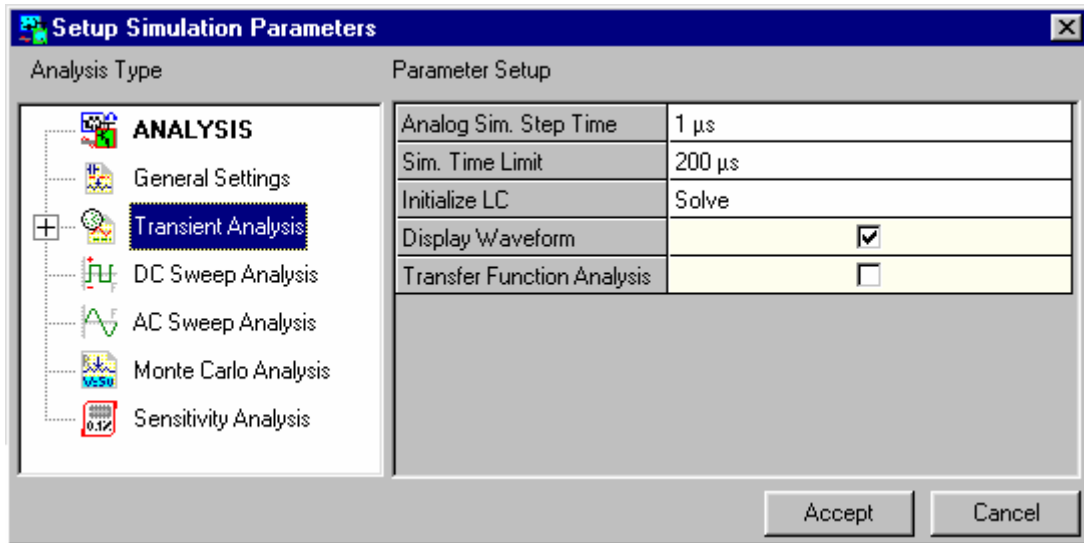

Fig. 6.10
7. Select **Transient Analysis**. Specify the timing parameter. Set the Analog Sim. Step time to 1 microsecond, Simulation Time Limit to 200 micro second (two generator periods). Initialize LC parameter should be set to Solve (Refer fig. 6-10).